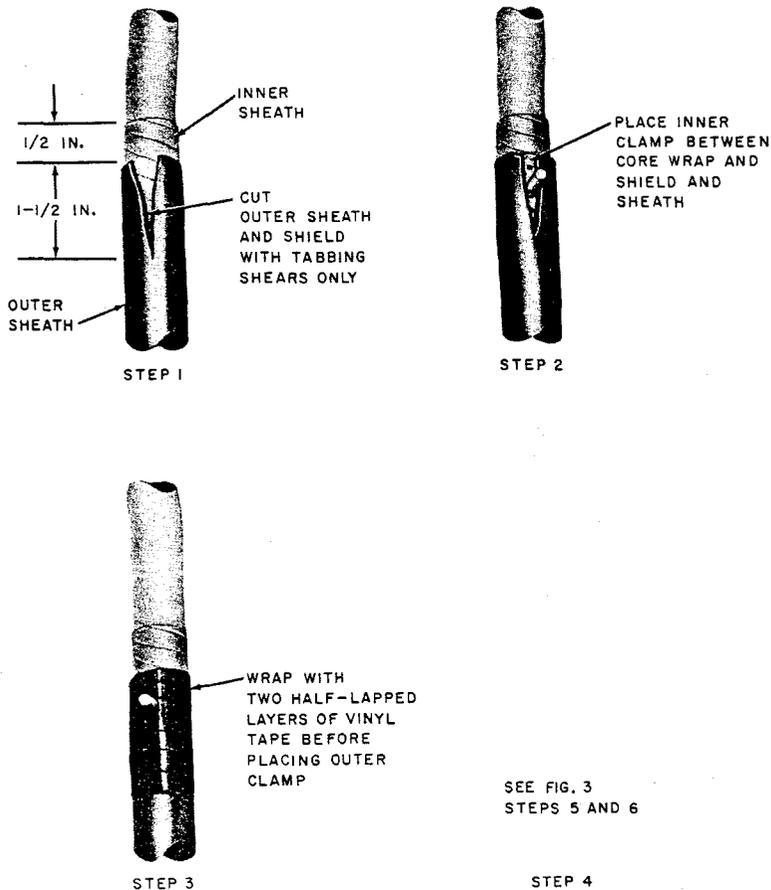

Fig. 12—Dual Sheath Preparation for Bond Clamp
- (c) Remove the outer sheath from the cable. Score the inner sheath 1/2-inch from the butt of the outer sheath. Remove the inner sheath (Fig. 12).